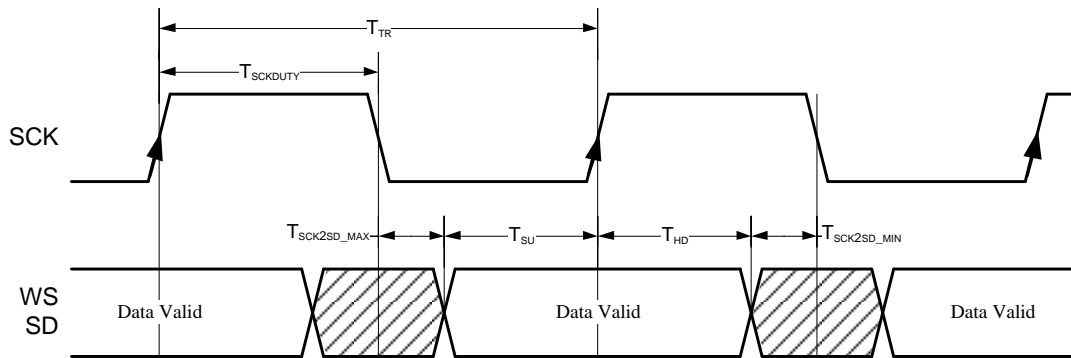

Figure 12. I2S Output Timings
- Refer to Figure 12 on page 20. Meets timings in Philips I2S Specification.